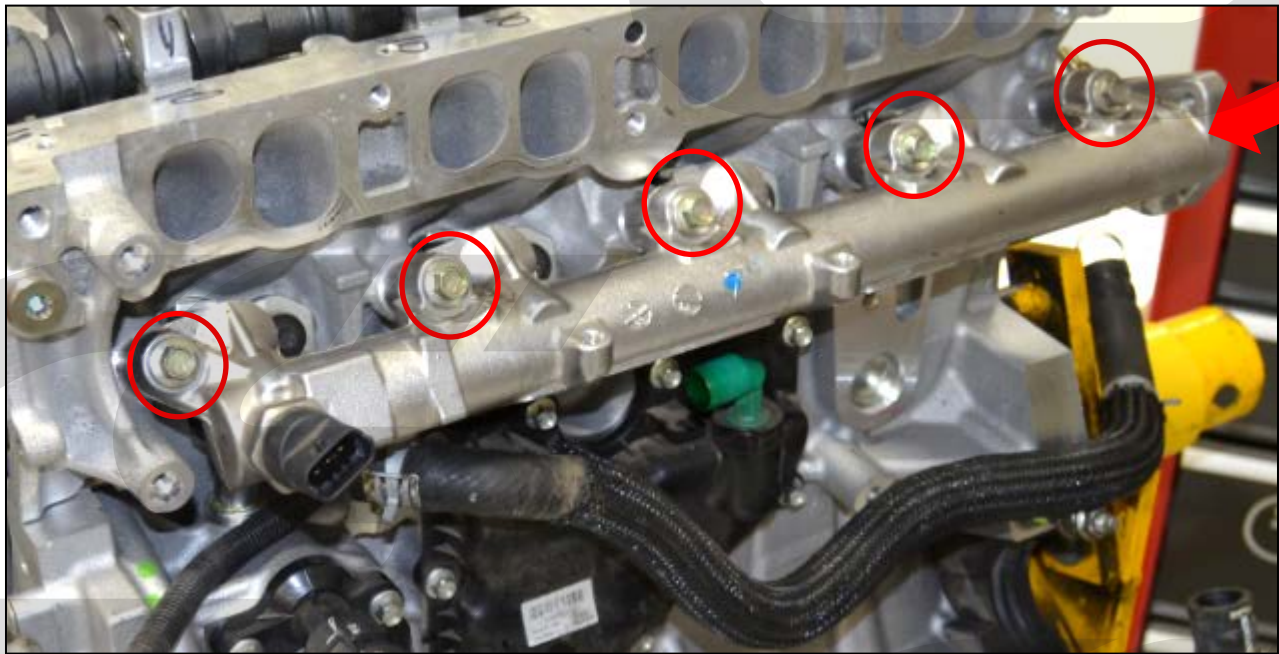

Figure 6f
- g) **Remove the fuel rail bolts** with a 10mm socket wrench, shown with red circles in Figure 6f.
- h) **Remove the fuel rail** by pulling it off the injectors starting at the driver's side and working your way across. Red arrow in Figure 6f.